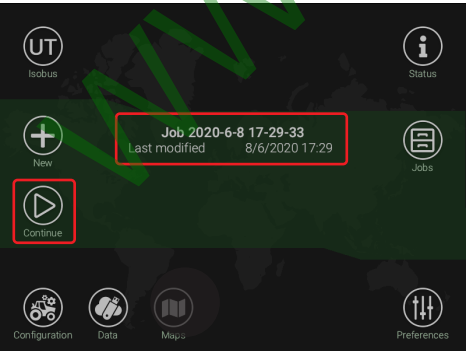

Fig. 120
- Press this icon to continue the last job performed (e.g. Job 2019-12... Fig. 120).